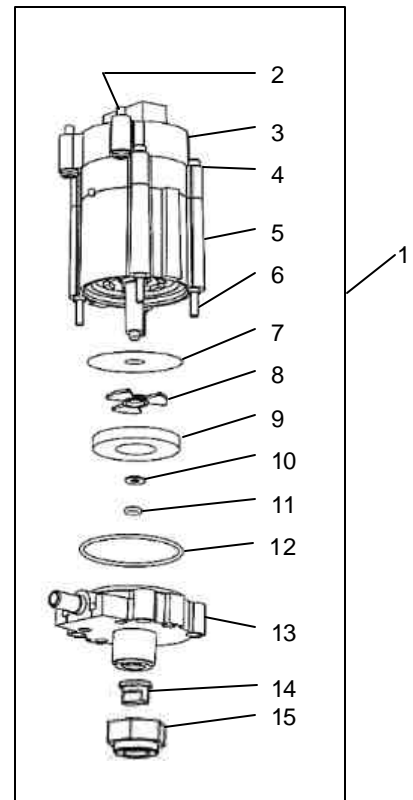

Figure 1: Internal Filter Assembly Order
- 5.63. Disassemble the internal pieces for cleaning. (See Figure 1 for component identification)
6.61. Assemble the filter, spacer, magnet, washer and o-rings, as shown in Figure 1. This is best accomplished by holding the Body with the long shaft upwards.